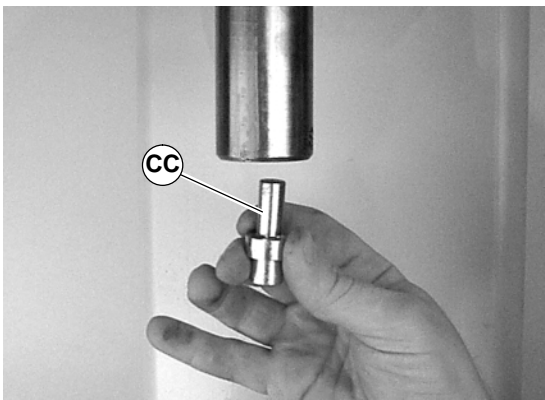

Figure 63
2. Install bearing insertion tool (CC of Figure 63)(25-10, part of tool kit 4500) into arbor press or similar device.